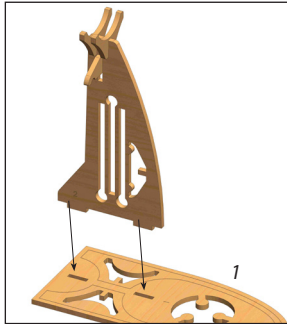

Figure 6
9. Glue the other end of Part 2 into Part 1 (Figure 6); this makes the stand. Let it dry.